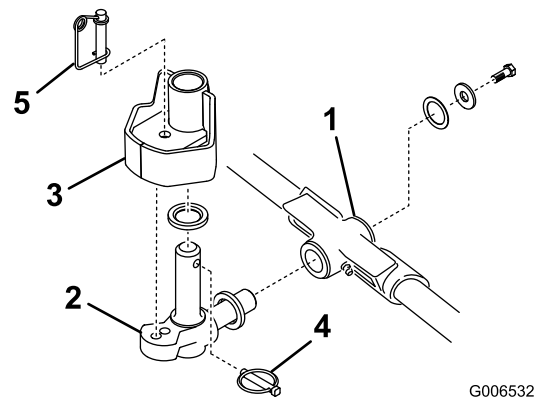

Figure 18
1. Insert a thrust washer onto horizontal shaft of pivot knuckle as shown in Figure 18.
2. Insert the horizontal shaft of the pivot knuckle into the mounting tube of the carrier frame (Figure 18).
3. Secure pivot knuckle to carrier frame with a thrust washer, flat washer and a flange head capscrew (Figure 18).
4. Insert a thrust washer onto vertical shaft of pivot knuckle (Figure 18).
5. If removed, insert the vertical shaft of the pivot knuckle into lift arm pivot hub (Figure 18). Guide the pivot knuckle in place between the two rubber centering bumpers in the under side of the lift arm steering plate.
6. Insert the lynch pin into the cross hole on the pivot knuckle shaft (Figure 18).
Note: If fixed cutting unit position is required, insert steering locking pin into pivot knuckle mounting hole (Figure 18).
11. Hook spring wire around bottom of steering locking pin (Figure 18).